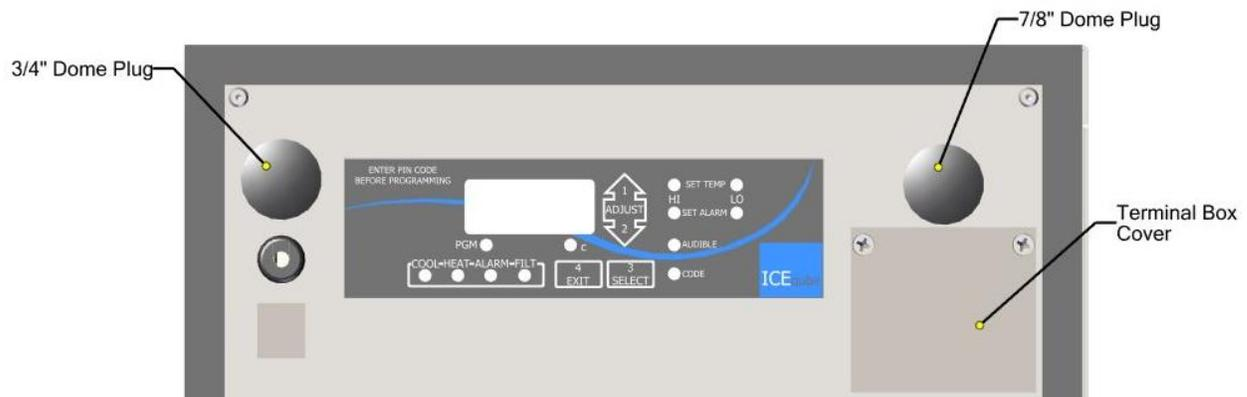

Figure 3: Terminal Cover
3. Remove the (2) terminal box cover screws and remove the cover. (See *Figure 3: Terminal Cover pg:8*). The terminal block will be used for power. (See
5. Remove Dome Plug and route power cable through the 0.875" (22.23mm) hole. Recommended conductor size is 14AWG. (See *Figure 3: Terminal* ) Use an approved strain relief to secure wires.